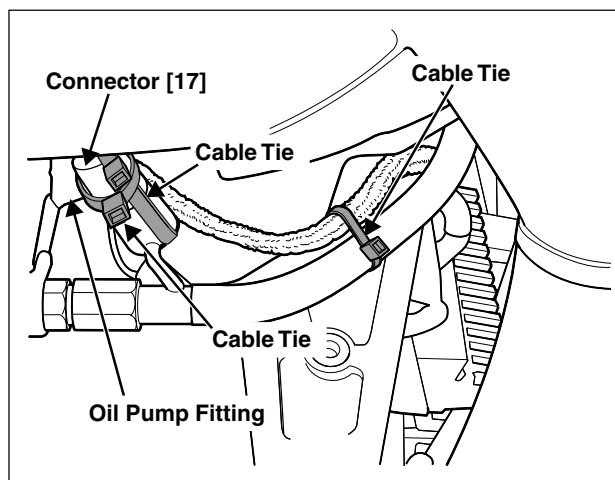

Figure 7-50. Cable Tie Locations
2. See Figure 7-50. Locate voltage regulator connector [17] near the oil pump. Cut cable straps and disconnect connector [17].
2. See Figure 7-50. Connect voltage regulator connector [17] halves and cable tie halves together. Bundle excess wiring in front of oil pump. Secure bundle to oil pump fitting and hose using **new** cable straps.